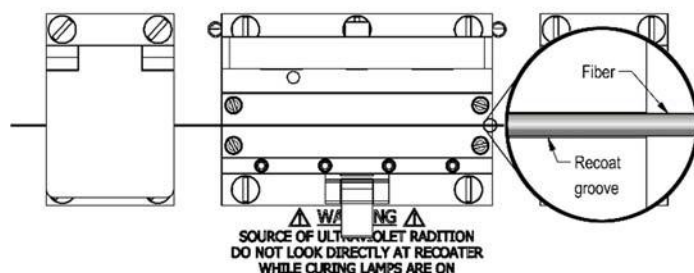

Figure 46 Align Recoat Mold
Lower the assembly straight down over the recoat lamps and replace the six (6) flange screws. Lightly tighten two diagonal screws only to allow for adjustment of the recoat assembly. Open the recoat station top and the tops of the fiber holding blocks. Clamp a length of coated fiber between the holding blocks such that the fiber is under slight tension. (A fiber nominally smaller than that of the diameter of the recoat mold should be used). Using a 10X magnifying loupe, view the fiber straight down at the right-hand edge of the recoat station, as shown in the Figure 46. Adjust the recoat assembly such that the fiber is centered in the bottom recoat groove. Repeat this procedure while viewing the fiber at the left edge of the recoat station. Tighten the recoat flange screws and re-check the fiber alignment.